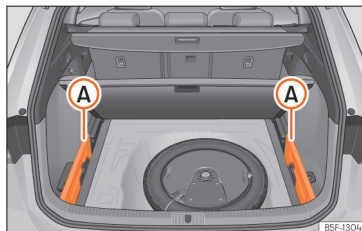

Fig. 180 In the boot: space to store the retractable shelf.
- Remove the left and right covers >>> Fig. 180 (A).